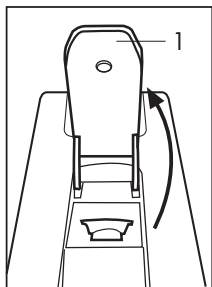
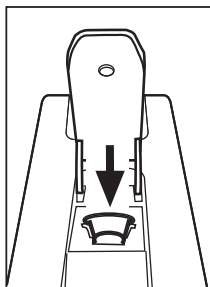

Fig. 7
Fig. 8
- Lift the control lever (1) completely (**Fig. 7**) and insert a capsule in the space provided. (**Fig. 8**)